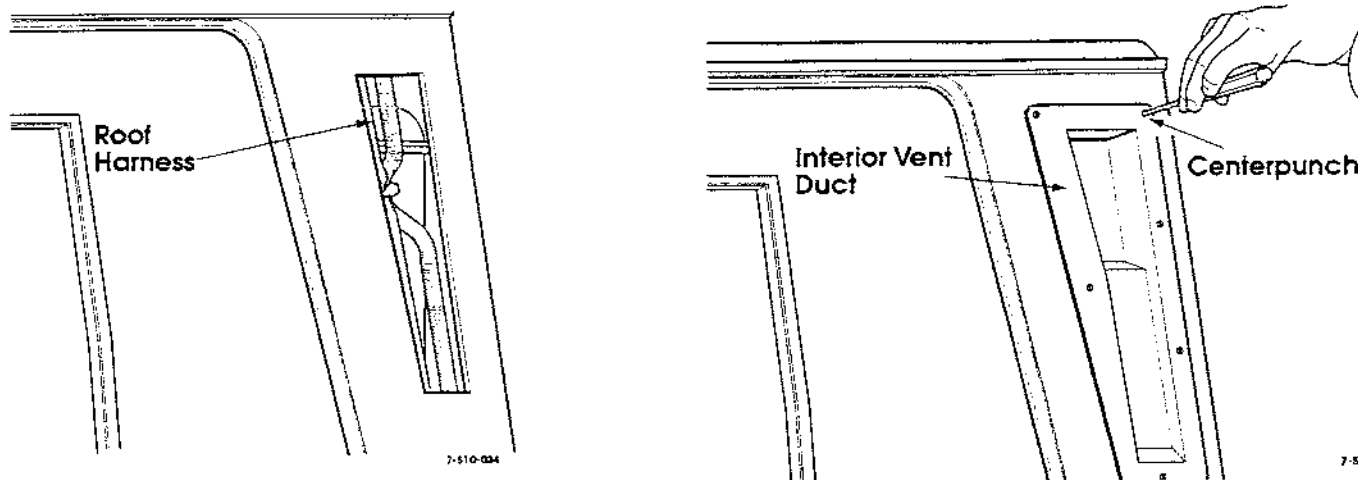

Figure 5 Harness Location and Mounting Hole Location
The roof harness is directly behind the cutout being made. Do not use cutting tools that will protrude through the metal being cut. Serious damage to the harness will result. The harness can be found on both sides of the vehicle. (See Figure 5)
5. Insert interior vent duct (Item 10) into hole (cutout at top). It may be necessary to enlarge hole slightly to fit duct correctly (See Figure 5).
6. Using inside duct as a template, mark and centerpunch the 6 mounting holes in the body. Drill holes using a 17/64" drill bit (See Figure 5). Use a depth gauge on the drill to prevent harness or interior trim damage.